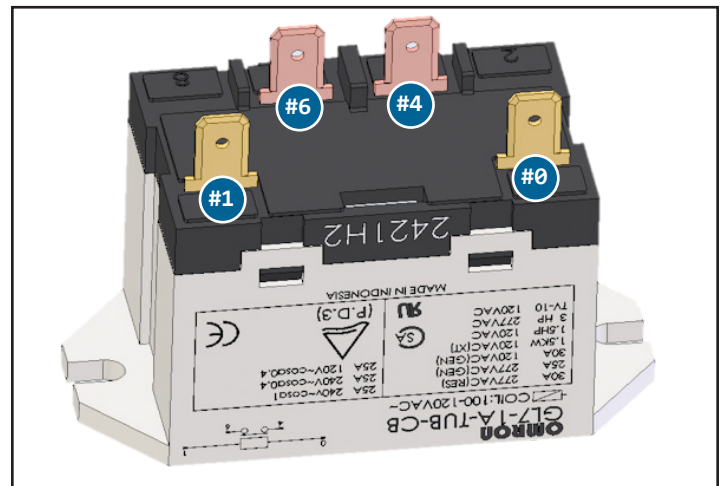

Fig. 2. Existing relay terminal configuration.
1. With provided lever connectors, connect the wires from the existing relay terminals (see fig. 2) to the provided relay wires as follows: